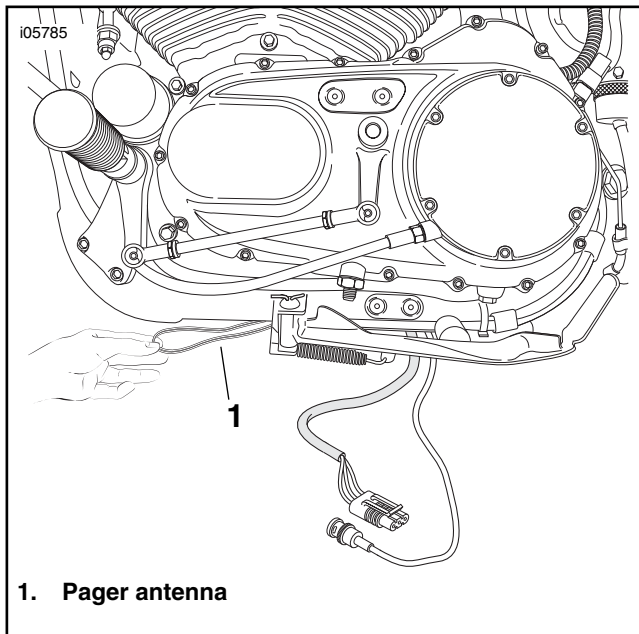

Figure 25. Route the Pager Antenna Along the Frame Tube
2. See Figure 25. Route the pager antenna along the inside of the frame tube and over both frame cross-members. Secure the antenna to the frame using cable straps.